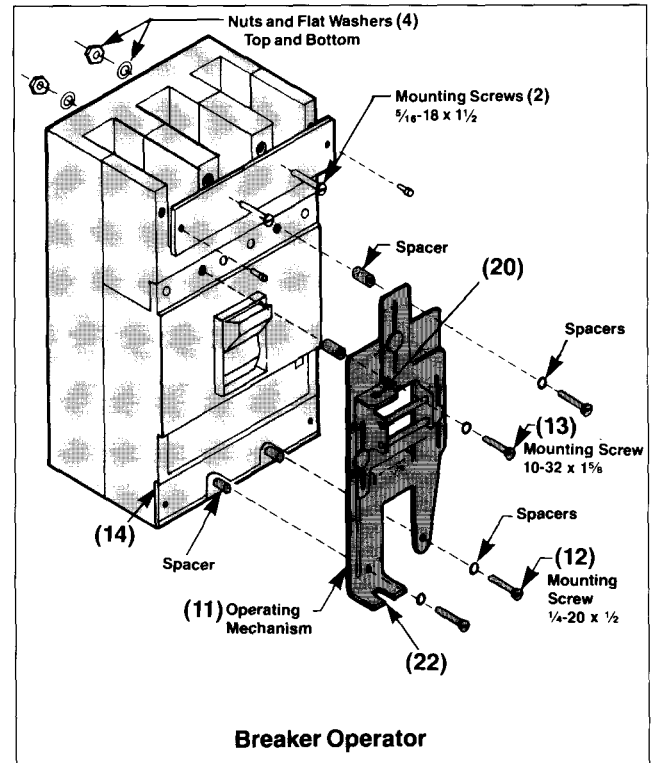

Figure 5
A. The breaker operator (11) is mounted to the circuit breaker using the same two lower screws (12) that are used to attach the breaker to the enclosure. In addition, two #10-32 x 1 $\frac{5}{8}$ in. screws (13) and spacers are used at the top and two $\frac{1}{4}$ -20 x $\frac{1}{2}$ in. screws (12) and spacers are used at the bottom (Figure 5).
B. Remove the lower terminal shield (14) from the circuit breaker and punch and drill out the two .56 in. diameter knockouts.
C. Cut slots in terminal shield as shown in Figure 5, to allow access to terminal lugs after installation of breaker operator.
D. Mount circuit breaker to the enclosed panel using the four breaker mounting screws as shown in Figure 5.
E. Slide the threaded cable rod (19) through the hole in the sliding plate tab (20) of the circuit breaker operating mechanism (Figures 5 and 6).
G. Place the cable mounting threads (21) into the slot on the fixed plate tab (22) so that the two mounting nuts (23) are on both sides of the tab. Adjust the two mounting nuts so that the #10-32 nut on the cable rod just touches the sliding plate tab. Tighten the mounting nuts to secure the cable (Figures 5 and 6).
H. Continue holding the operating handle in the ON position and place the spring (24) over the end of the rod. Screw on the spring adjuster (25) and tighten until it begins to compress the spring. DO NOT OVERTIGHTEN THE SPRING ADJUSTMENT NUT.